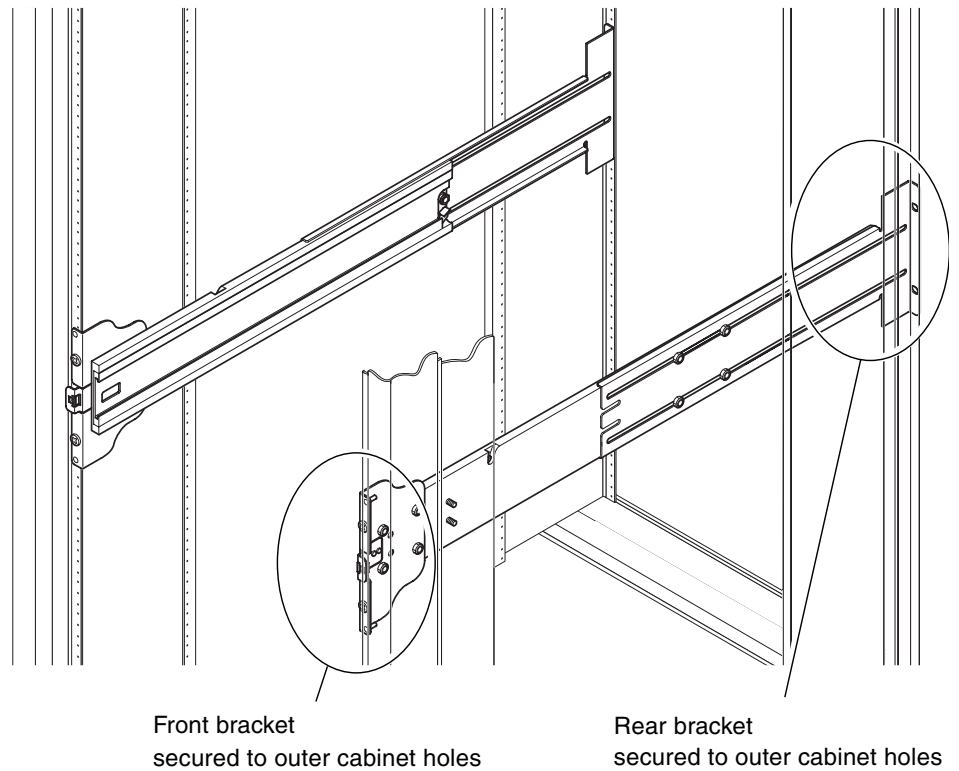

FIGURE 1-5 Installing the Rails in a Sun Rack 900 Cabinet or 19-Inch Four-Post Cabinet
1. Insert the pins in the front bracket into cabinet holes 22 and 33 (FIGURE 1-5).
1. Insert the pins in the front bracket into cabinet holes 58 and 69 (FIGURE 1-5).
3. Secure the rear bracket with two No. 10-32 UNF screws (FIGURE 1-5).
4. Secure the front bracket with two No. 10-32 UNF screws (FIGURE 1-5).